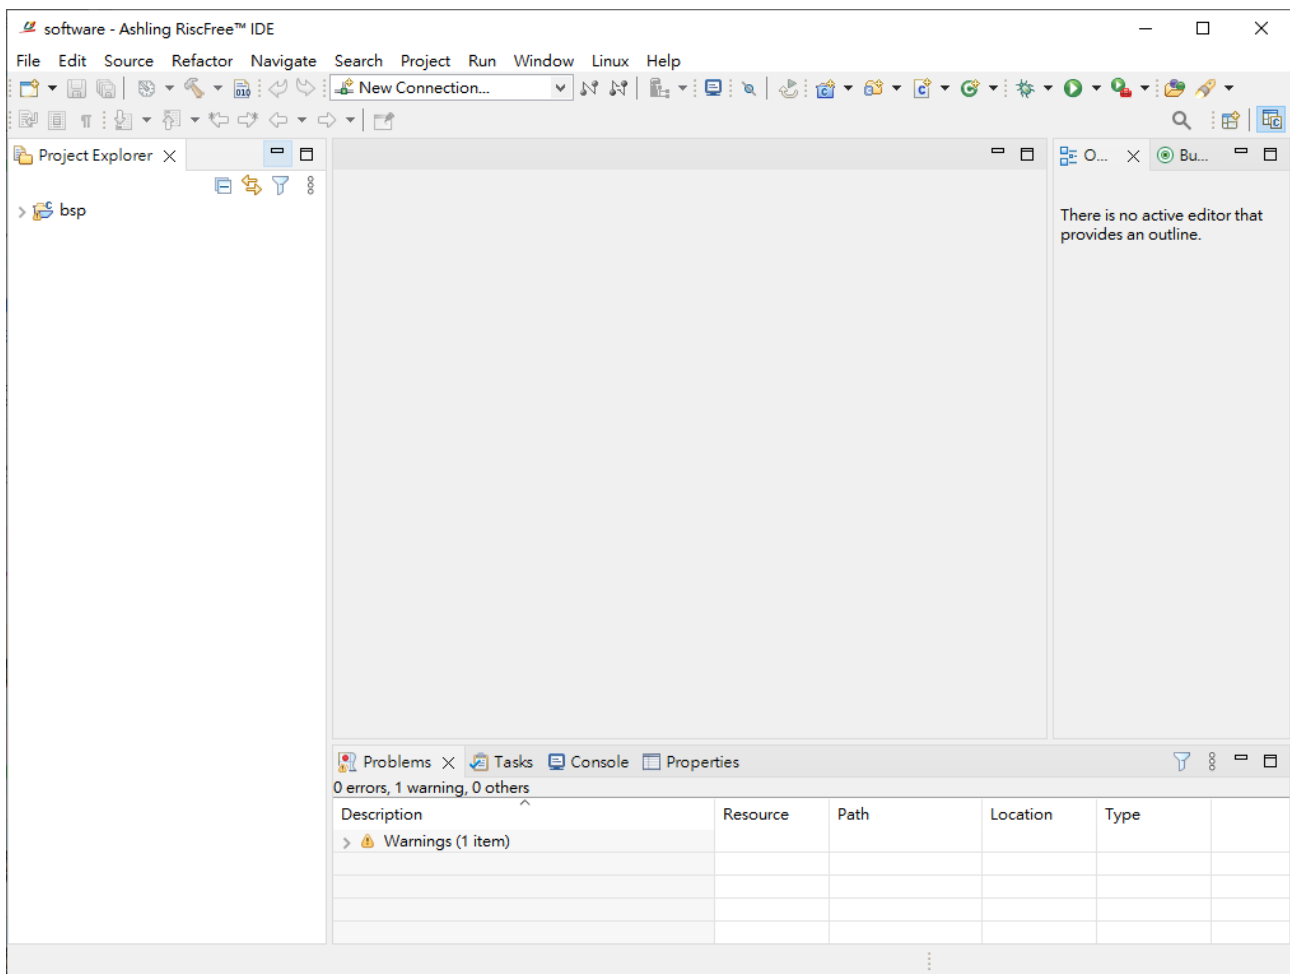

Figure 3-14 Ashling RiscFree IDE C++ Project Perspective for bsp
6. Click **Finish**. The Ashling RiscFree IDE import the **bsp** project and returns to the Nios V C/C++ project perspective. See Figure 3-14.